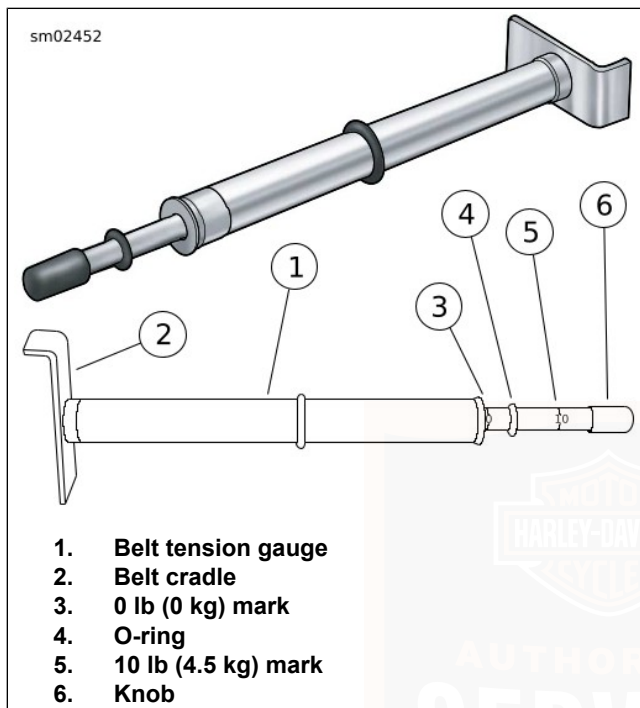
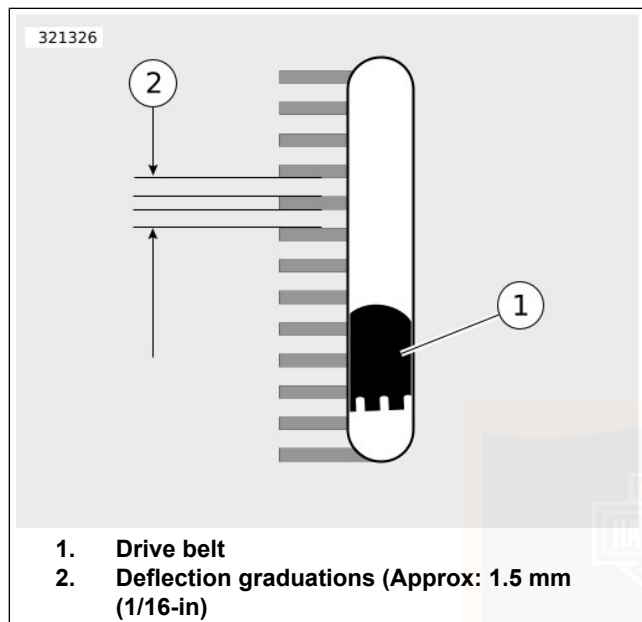

Figure 33. Belt Tension Gauge
Figure 35. Belt Deflection Window
3. See Figure 33. Measure belt deflection using BELT TENSION GAUGE (PART NUMBER: HD-35381-A):
- a. Slide O-ring (4) to zero mark (3).
- b. **Models equipped with belt deflection window:** Fit belt cradle (2) against bottom of drive belt in line with belt deflection window.
- c. **All other models:** Fit belt cradle (2) against bottom of drive belt halfway between drive pulleys.
- d. Press upward on knob (6) until O-ring slides down to 4.54 kg (10 lb) mark (5) and hold steady.
- a. **Models equipped with belt deflection window:** See Figure 35. Measure belt deflection as viewed through belt deflection viewing window while holding gauge steady. Each deflection graduation is approximately 1.6 mm (1/16 in).